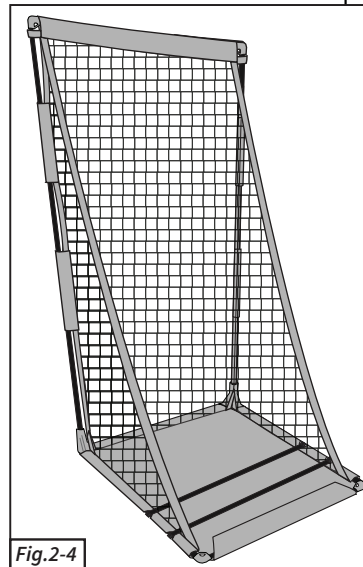

Fig.2-4
4. Note: the finished net structure is a vertical 3-sided cage. (Fig. 2-4)